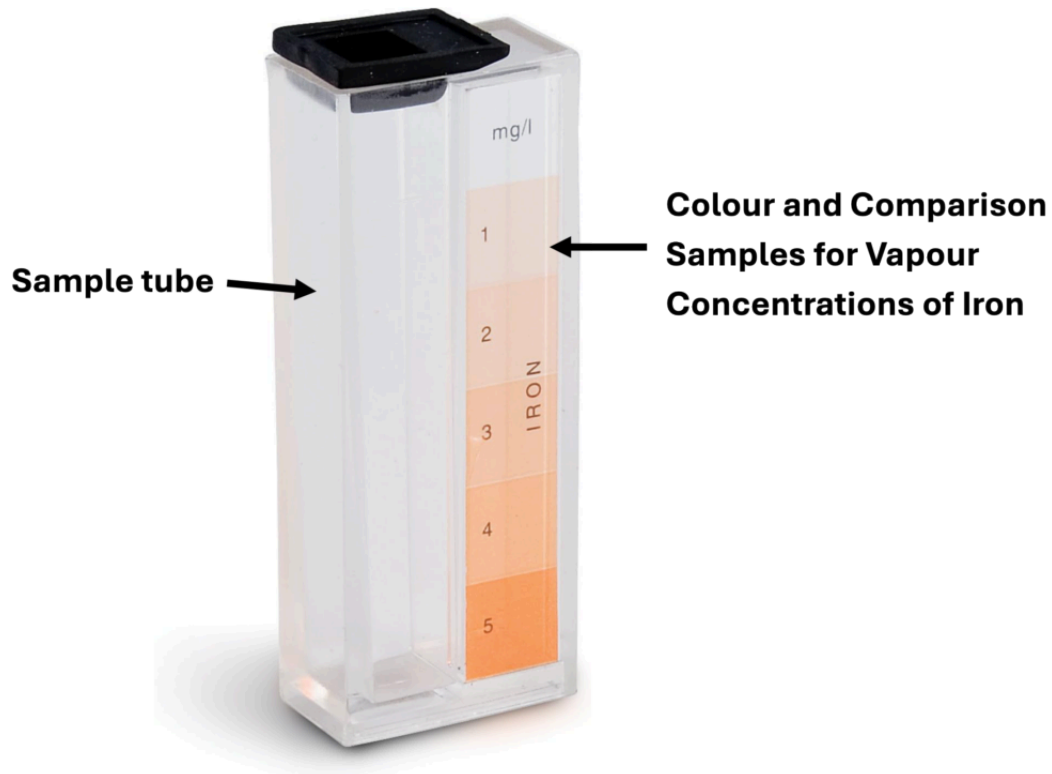

Figure 21. Iron test colour comparison equipment
- Figure 21. “Iron test colour comparison equipment” from Hanna Instruments is used and adapted for educational purposes under the basis of fair dealing.